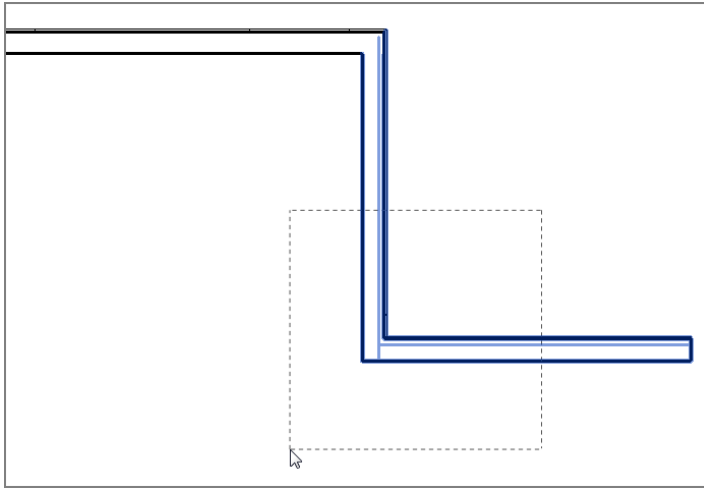

FIGURE 1.20: Using a crossing window to select two walls
3. You see a window start to form. Run that selection window down and to the left past the two walls. After you highlight the walls, as shown in Figure 1.20, let go of the mouse button, and you've selected the walls.
A *crossing window* is an object-selection method in which you select objects by placing a window that crosses through the objects. A crossing window always starts from the right and ends to the left. When you place a crossing window, it's represented by a dashed-line composition (as you saw in Figure 1.20).